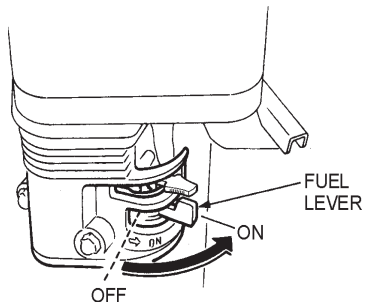

Figure 11. Fuel Valve Lever
1. Place the **fuel valve lever** (Figure 11) in the "ON" position.
3. Place the **fuel valve lever** (Figure 11) in the **"OFF"** position.